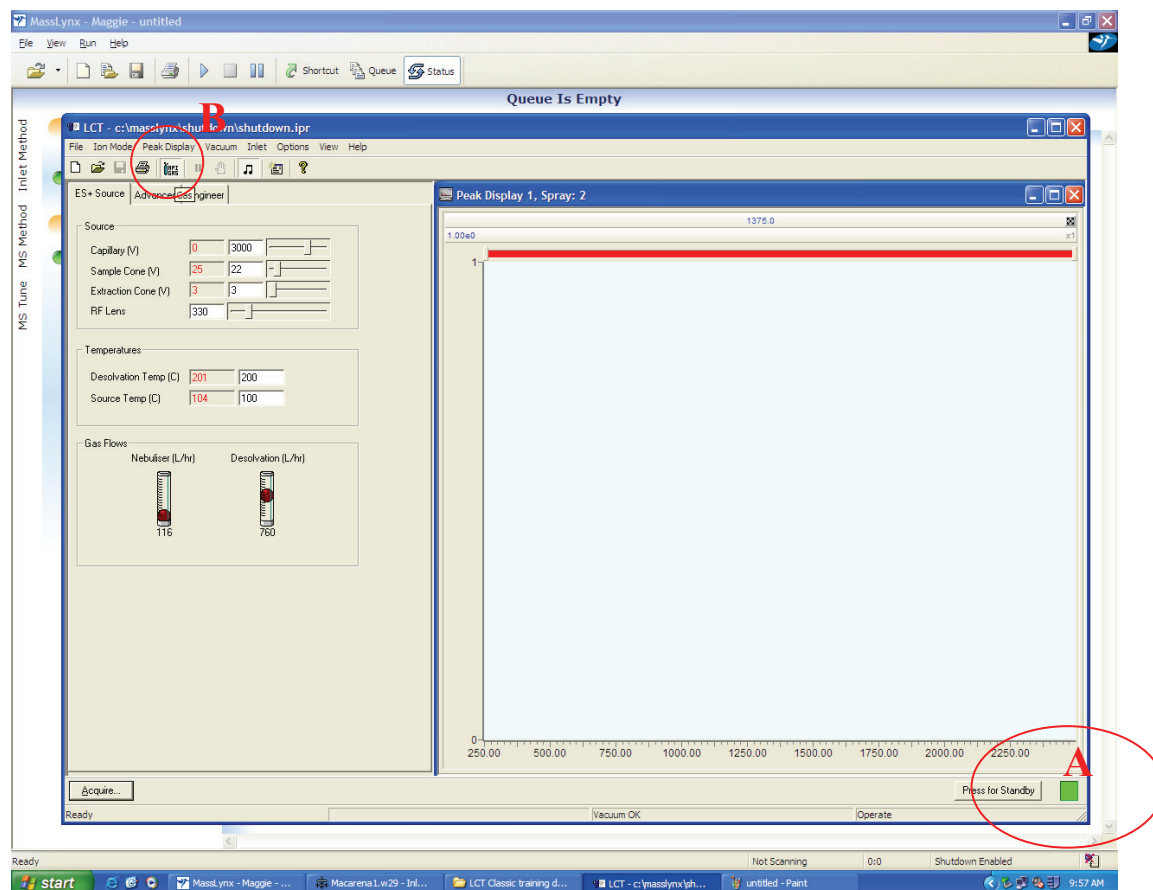

Figure 5: Switch into operate (A), check gas on (B)
2.2 If it is not already in operate switch into operate and switch on API (A & B; Figure 5).